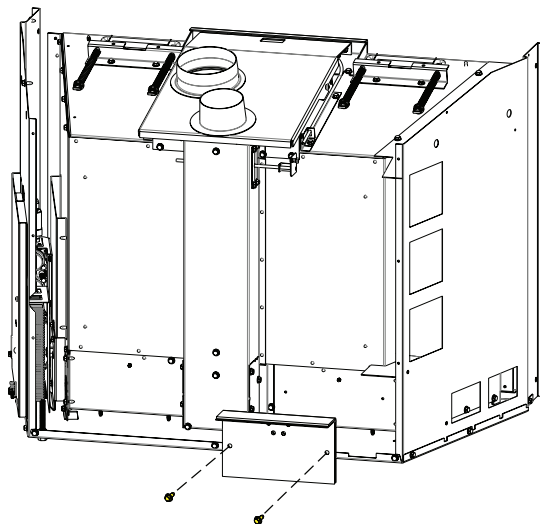

Figure 12
15. Line up the 2 screws coming out of the rear of the firebox with heat shield assembly, using 2 self drilling screws, secure heat shield as shown in **Figure 12.**